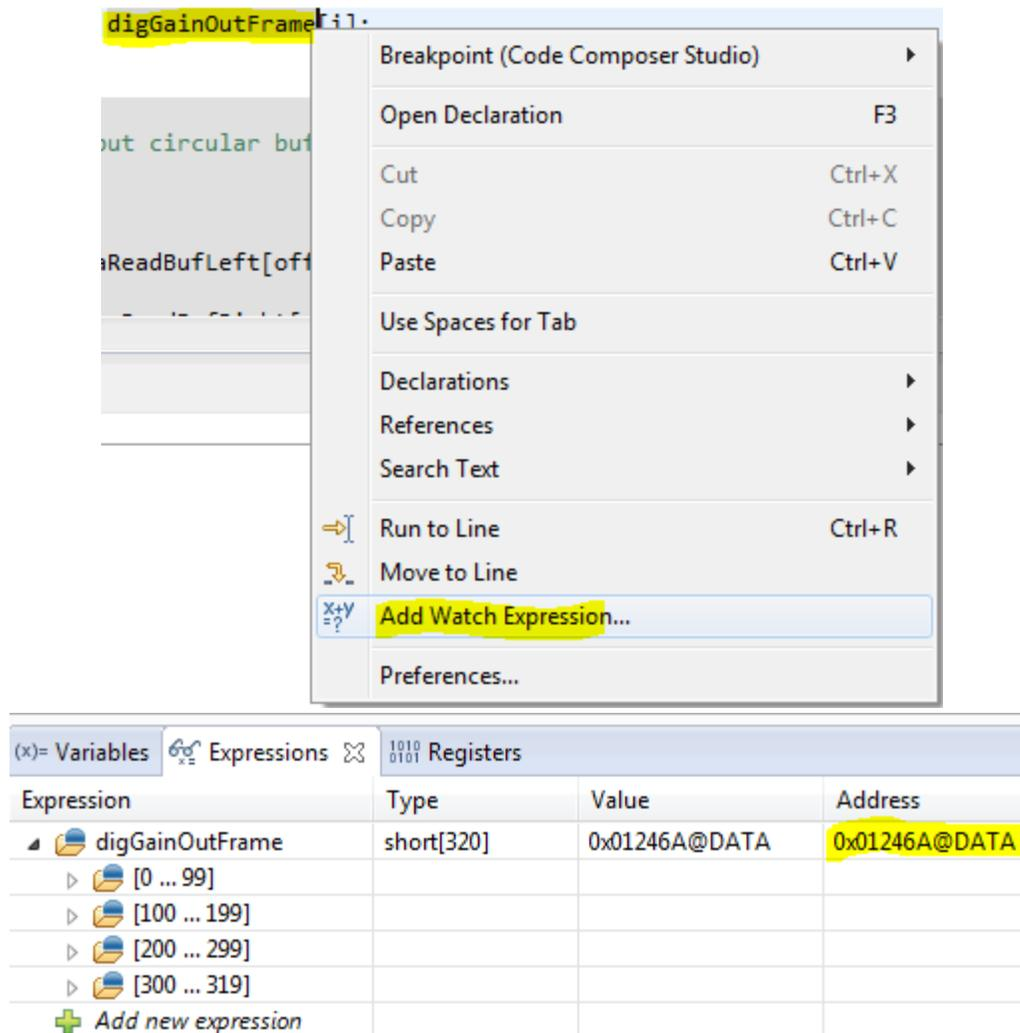

Figure 15. Adding a Watch Expression in CCS to Determine the Location of the Audio Buffers
8. Prior to running the program, create a watch expression for `digGainOutFrame` in the watch expression window. `digGainOutFrame` is the buffer that holds the final output of the decimation stages. The objective of having this expression in the watch window is to ascertain the memory location to grab the audio sample output from the test program. As seen in Figure 15, the location in this case is `DATA 0x01246A`. This location may vary, so ensure that the address is known before running the program.